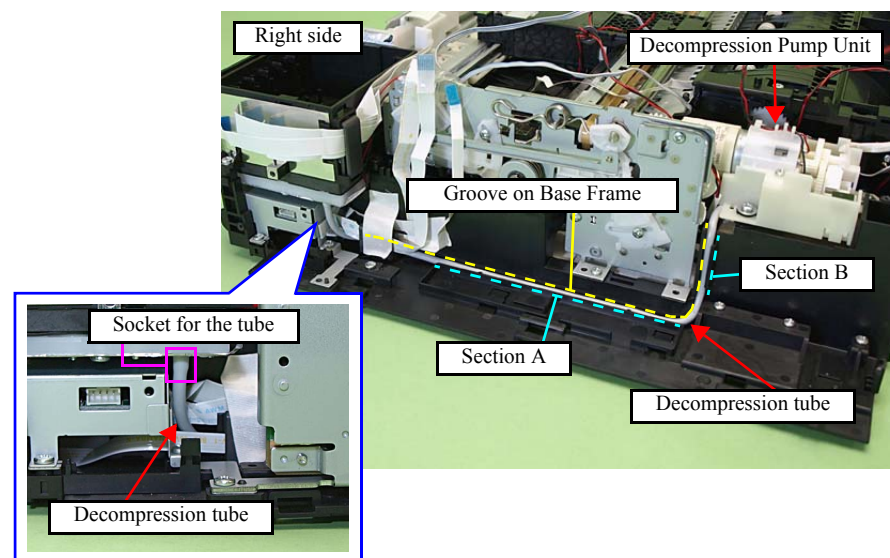
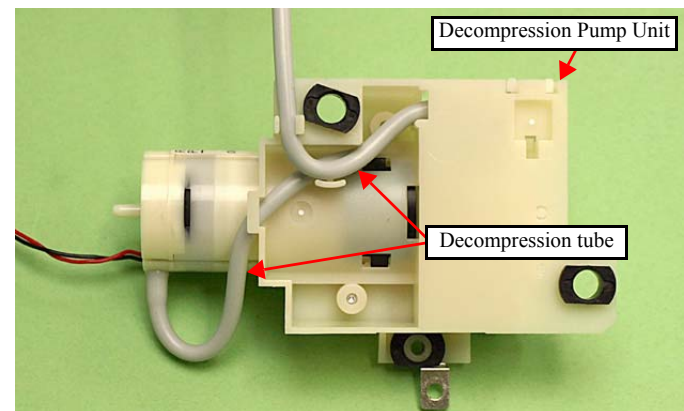

Figure 4-71. Removing the Decompression Pump Unit
Figure 4-73. Installing the Decompression Pump Unit
1. Remove the decompression tube from the socket of the Cartridge Box Unit. (See Fig. 4-71.)
- When routing the decompression tube, confirm no clipped part or fold on the tube. (See Fig. 4-71, Fig. 4-73.)
- Put the decompression tube through the groove on the Base Frame (section A, B), and route it behind the FFC. (See Fig. 4-71.)
- Make sure to insert the decompression tube into the socket on the Cartridge Box Unit to the full to its base. (See Fig. 4-71.)
3. Disconnect the decompression tube from the socket on the Cartridge Box Unit. (See Fig. 4-71.)